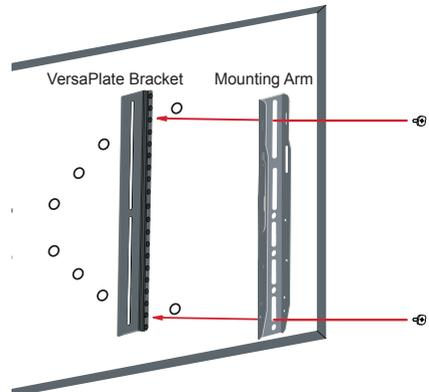

Figure 2
3. Place the display **mounting arm** on top of the **VersaPlate bracket**. (Figure 2)